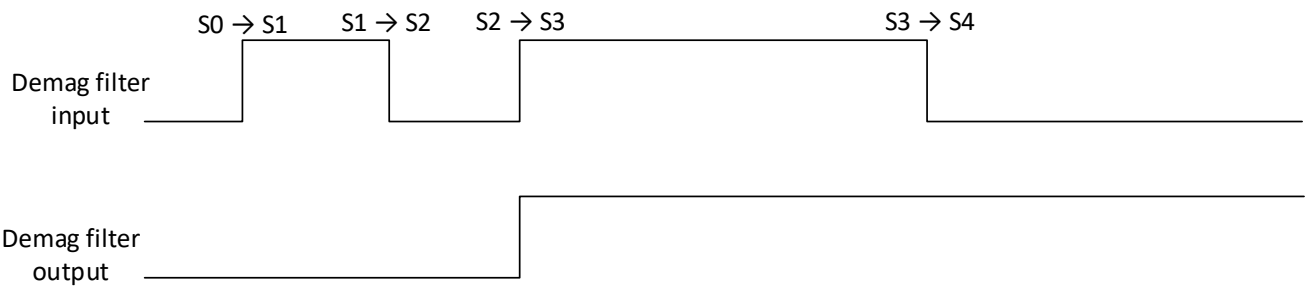

Figure 10 BEMF with only one demag-pulse
- BEMF with only one demag-pulse (Figure 10)